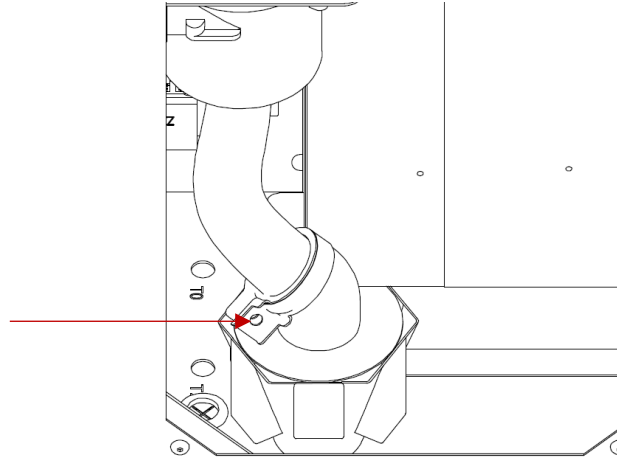

Fig. 105 Metal clamp for securing the supply line
6. Unscrew the metal bracket that fixes the supply hose and remove the filter hose opening (Fig. 105)